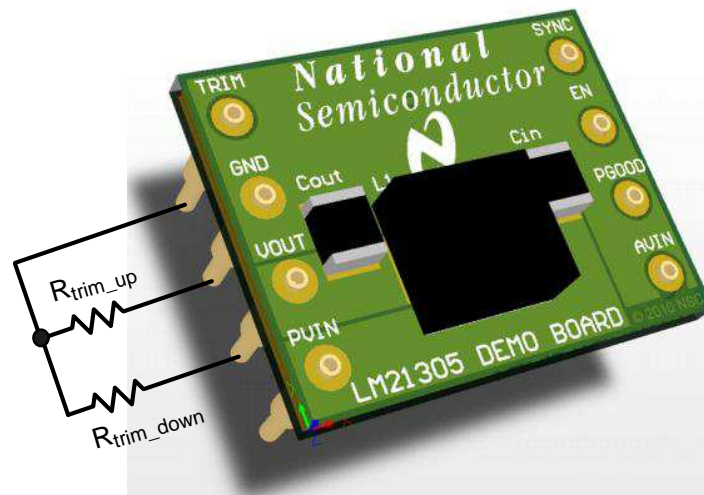

Figure 4. Output Voltage Trim and Adjustment
The output voltage can also be adjusted above or below the nominal setpoint by attaching a resistor to the module's TRIM pin. The resistor between the LM21305's feedback (FB) node and the TRIM pin (R_{trim}) determines the output voltage adjustable range. To increase the output voltage, a resistor needs to be attached between the TRIM pin and GND (R_{trim_up} in Figure 4). Conversely, to decrease the output voltage, a resistor needs to be attached between the TRIM pin and the VOUT pin (R_{trim_down} in Figure 4).